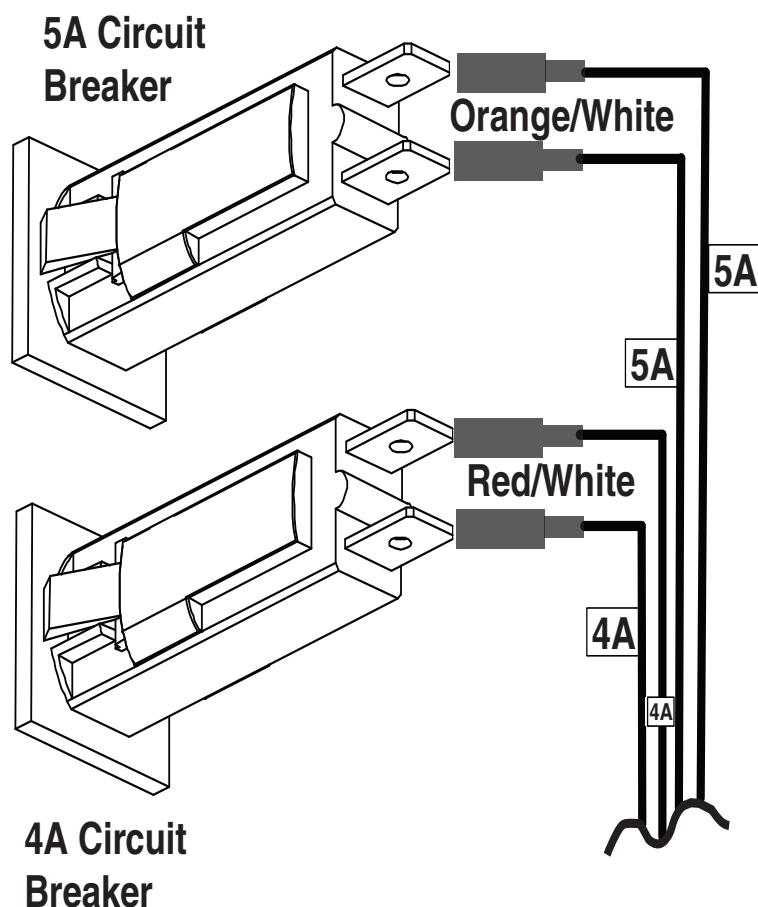

Figure 5. Circuit Breakers Transformer Connections
Install the IntelliCenter Control System 5AMP (P/N 522339) and 4 AMP (P/N 522338) circuit breakers: See Figure 5 on page 7
3. **Connect Circuit Breaker Wires:** Connect both Orange/White wires from the System Transformer Orange/White to the 5A circuit breaker terminal, and both Red/White wires to the 4A circuit breaker terminal. See Figure 5.